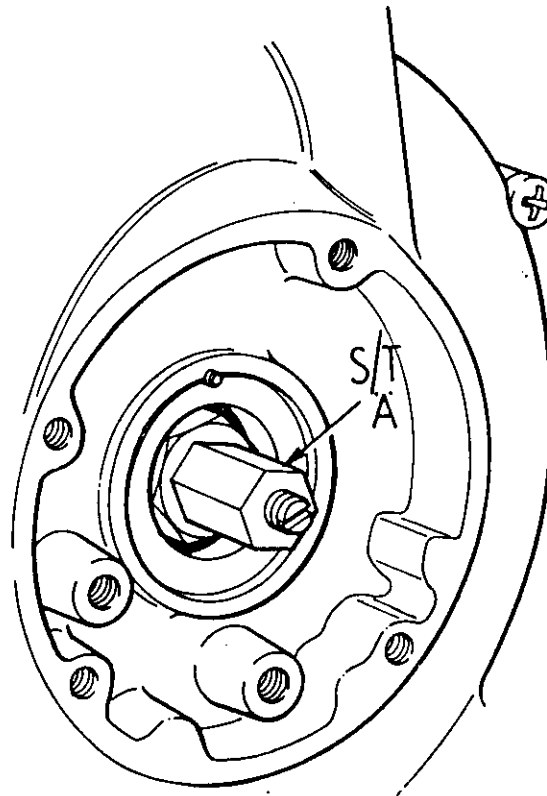

FIG. B87.
Thread the service tool (A) 61-6104 on to the clutch pull rod until pull rod operates and frees the clutch. Leave service tool in position (as in Fig. B87).